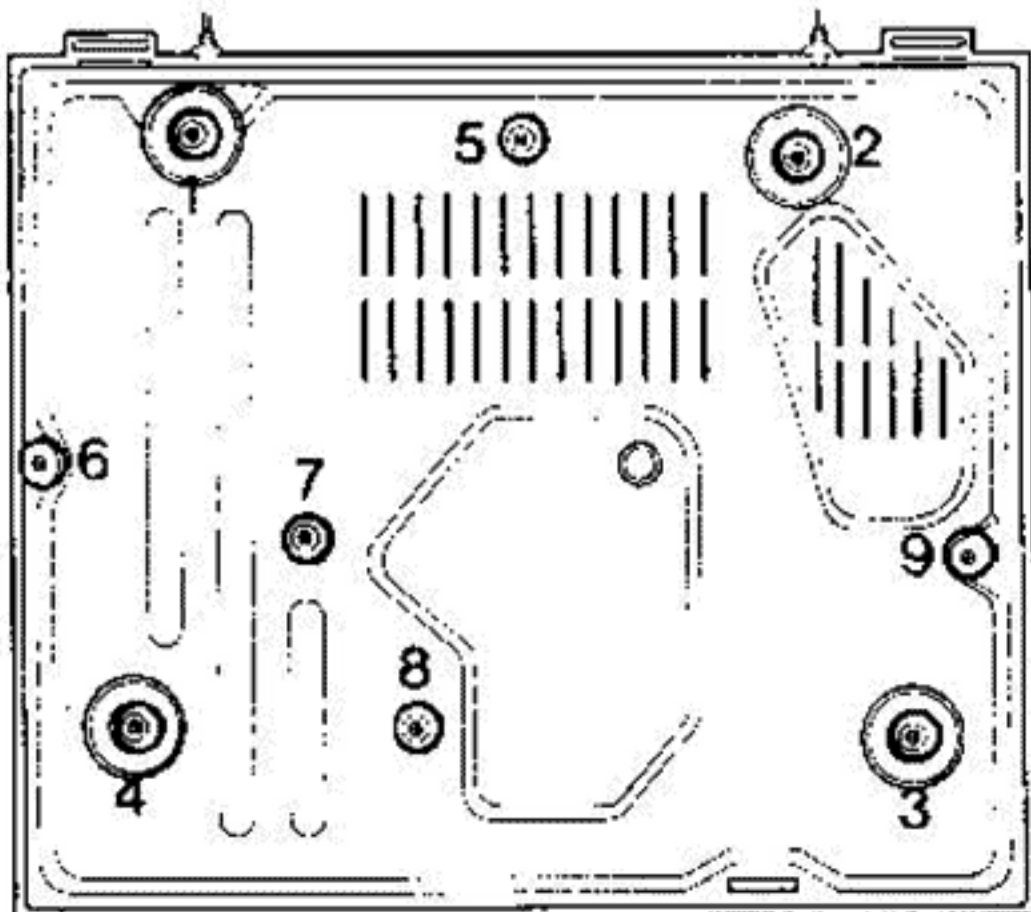

Fig. 1
- a. Remove screws ① through ④ in fig. 1 and remove the acoustic insulator feet.
- b. Remove screws ⑤ through ⑨ in fig. 1 and remove the bottom cover.